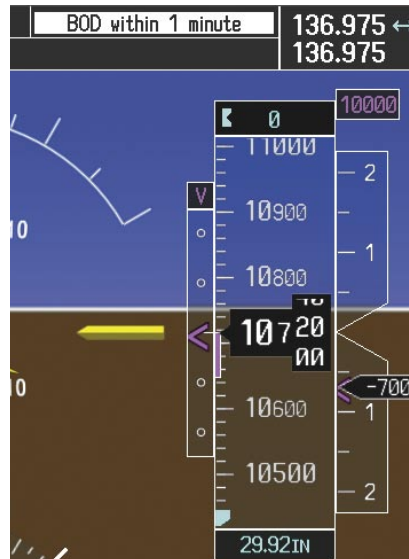

Figure 5-121 Approaching Bottom of Descent (BOD) at OPSHN Offset Waypoint
- 17) When the aircraft is one minute from the bottom of descent (BOD) this is annunciated as shown in Figure 5-121. Upon reaching the offset waypoint for OPSHN, the aircraft is at 10,000 feet.